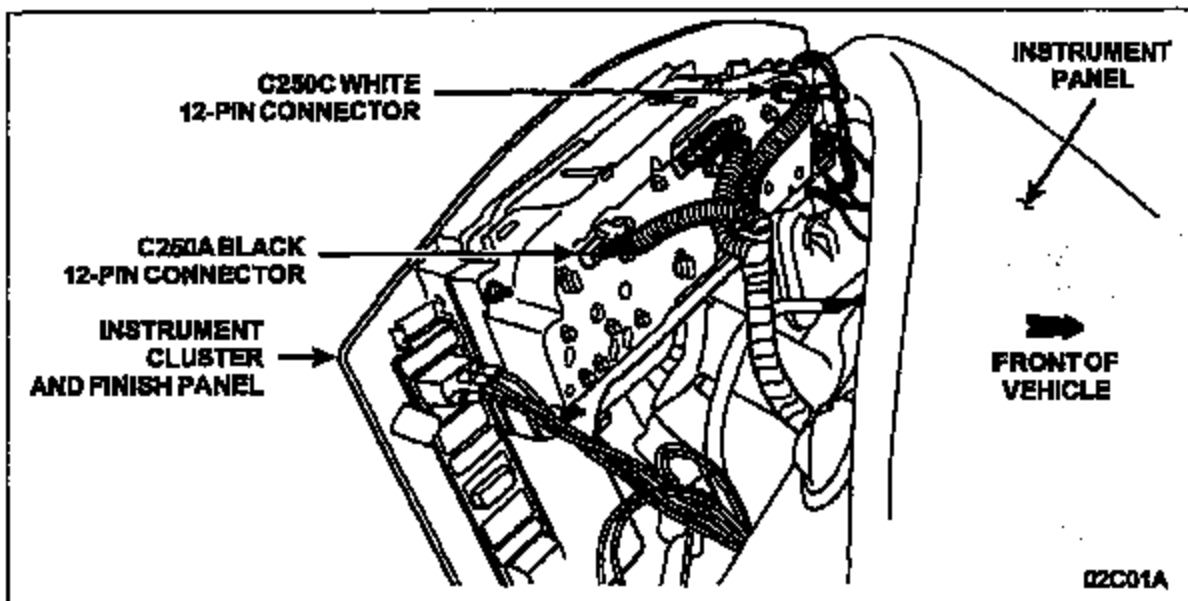

FIGURE 1
NOTE: It is not necessary or desirable to remove the cluster from the finish panel, though positioning the shift lever in "1" may be helpful. This should provide suitable access to the repair area. See Figure 1.
2. Disconnect the C250A (black 12-pin connector) and C250C (white 12-pin connector) instrument cluster electrical connectors. See Figure 1.